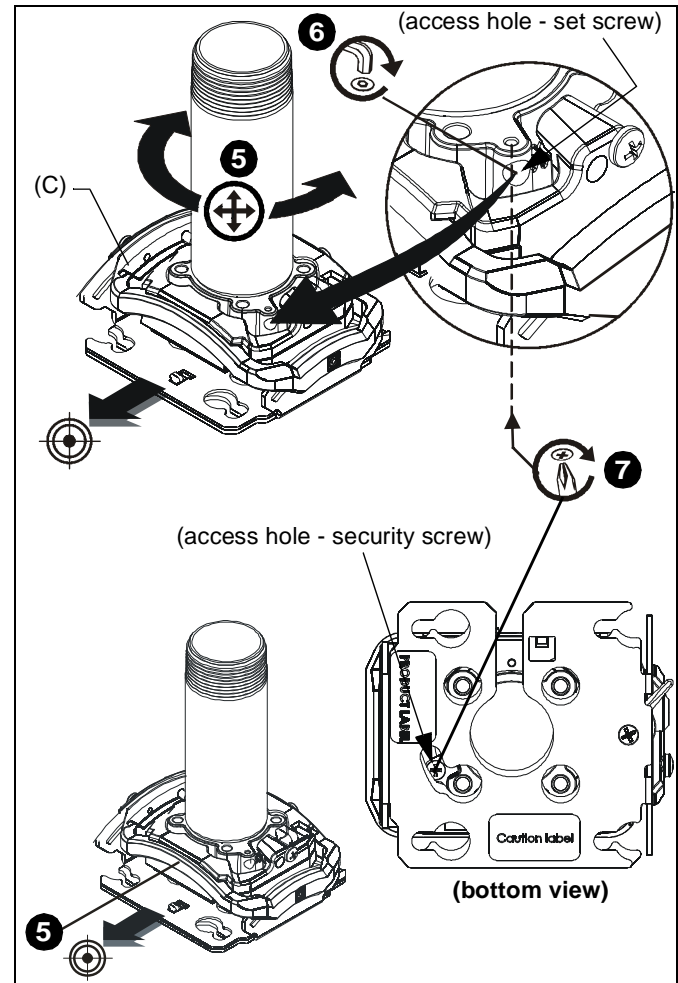

Figure 2
7. Turn security screw (shipped installed in projector mount and accessed through bottom of projector mount) using a Phillips screwdriver until set screw cannot be seen through access hole in projector mount. (See Figure 2)